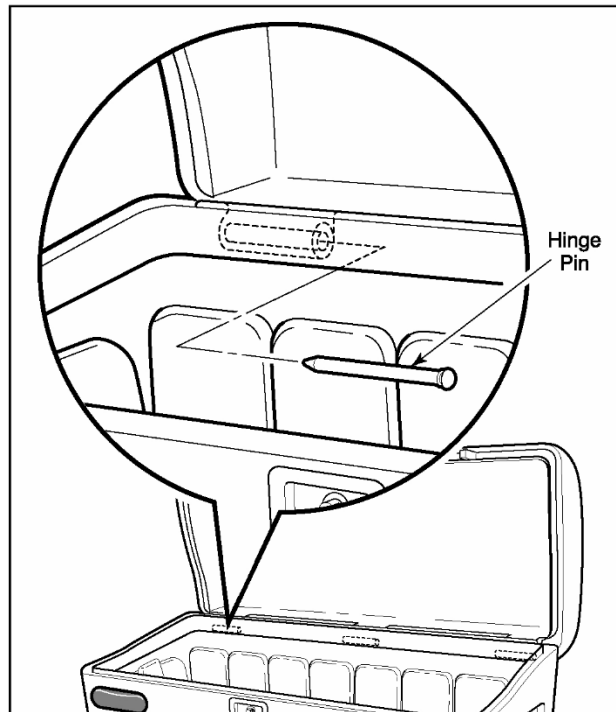

Fig 6
- Push the drain plug into the drain hole at the bottom of the cargo box (Fig 6).